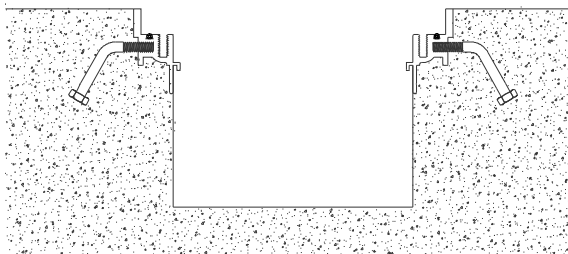

Figure 6
STEP 11. After the concrete has cured, remove the temporary wooden cover from the frame and remove the wooden bracing from the liner (see Figure 6).